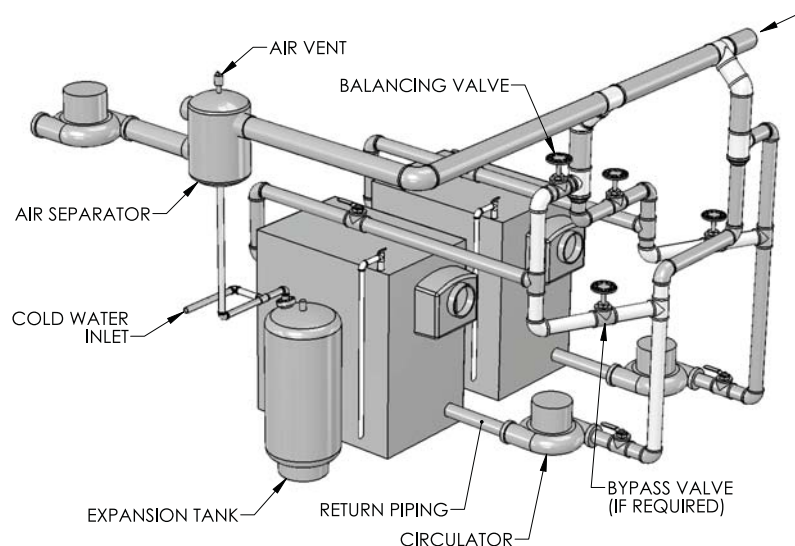

Figure 3.8: Multiple Water Boiler Piping
1. Figure 3.8 shows a typical piping arrangement for multiple water boilers. The optional bypass valve is used when the system return water temperature is consistently below 130°F (54°C) for gas boilers or 150°F (66°C) for oil boilers.